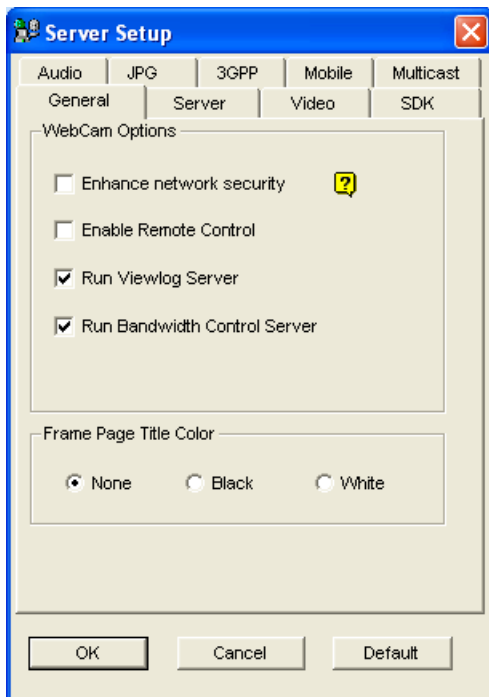

Figure 8-4
- **Rpb port:** This port is used for remote playback feature. The default value is 5511. For this feature to work, the **Run ViewLog Server** option (Figure 8-4) must be selected too.